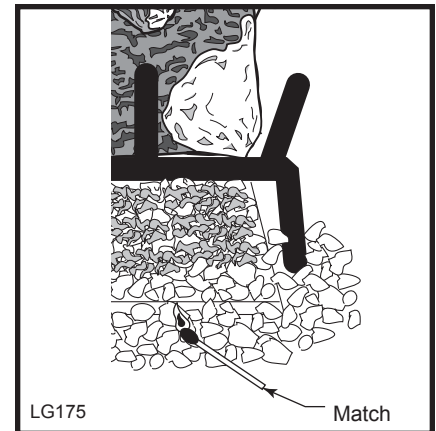

Fig. 14 Lighting the log set.
2. Wait five (5) minutes to clear out any gas. If you then smell gas STOP! Follow the safety information above. If you don't smell gas, go on to the next step.
3. Light a match and lay it on top of the pan material, about 2" from the end of the supply side of the pan. (Fig. 14)
4. Slowly turn the gas shut-off valve ON until the burner ignites. If the burner doesn't ignite within ten (10) seconds with the match burning, turn the shut-off valve OFF and repeat steps 1 through 4 again.